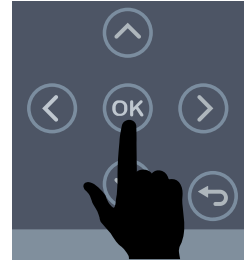

Figure 72. OK Button
1. From the View Menu on the digital controller, press the **OK button** (Figure 72).